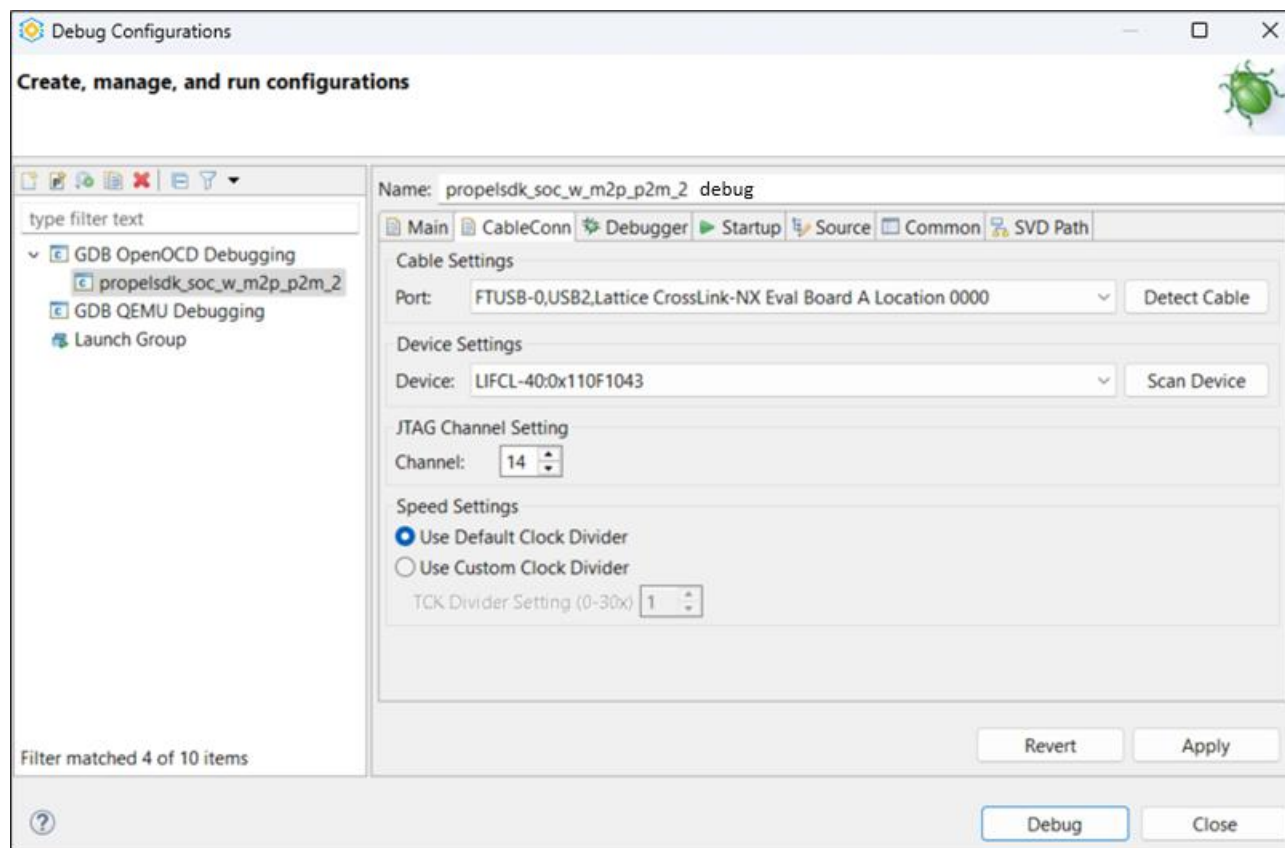

Figure 8.6. Cable Connection Setup – Cable Connection Tab
4. Select the port that is connected to the USB cable, as shown in Figure 8.6.